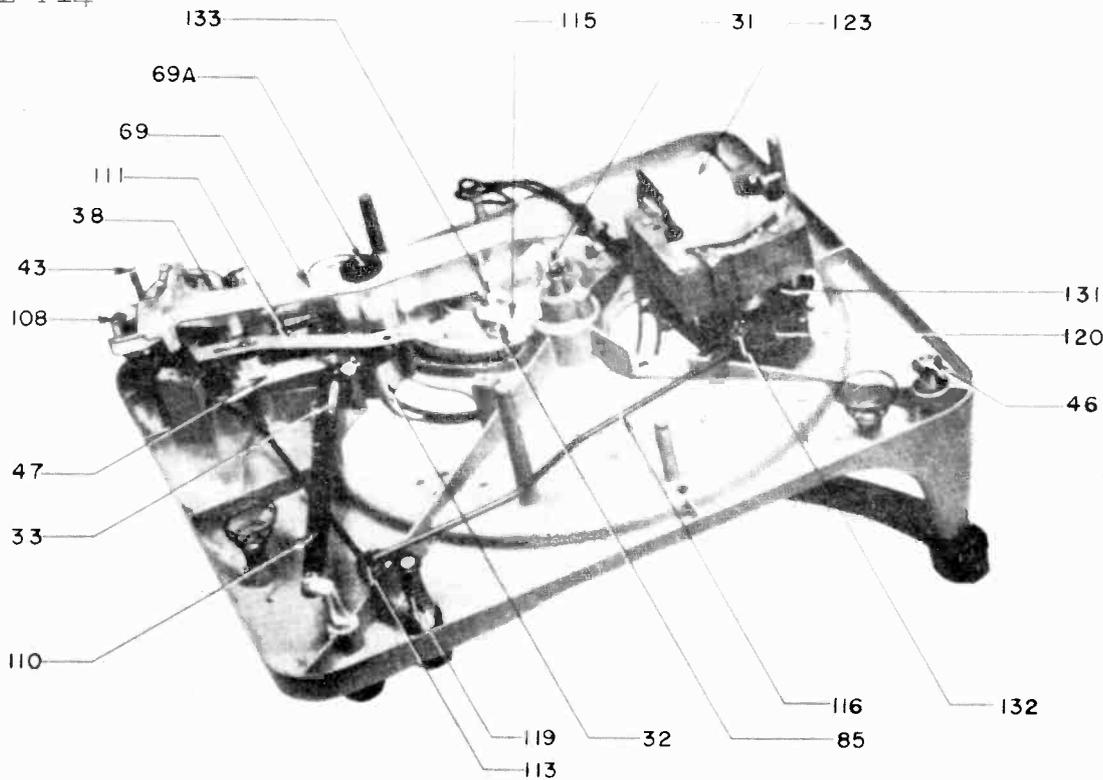
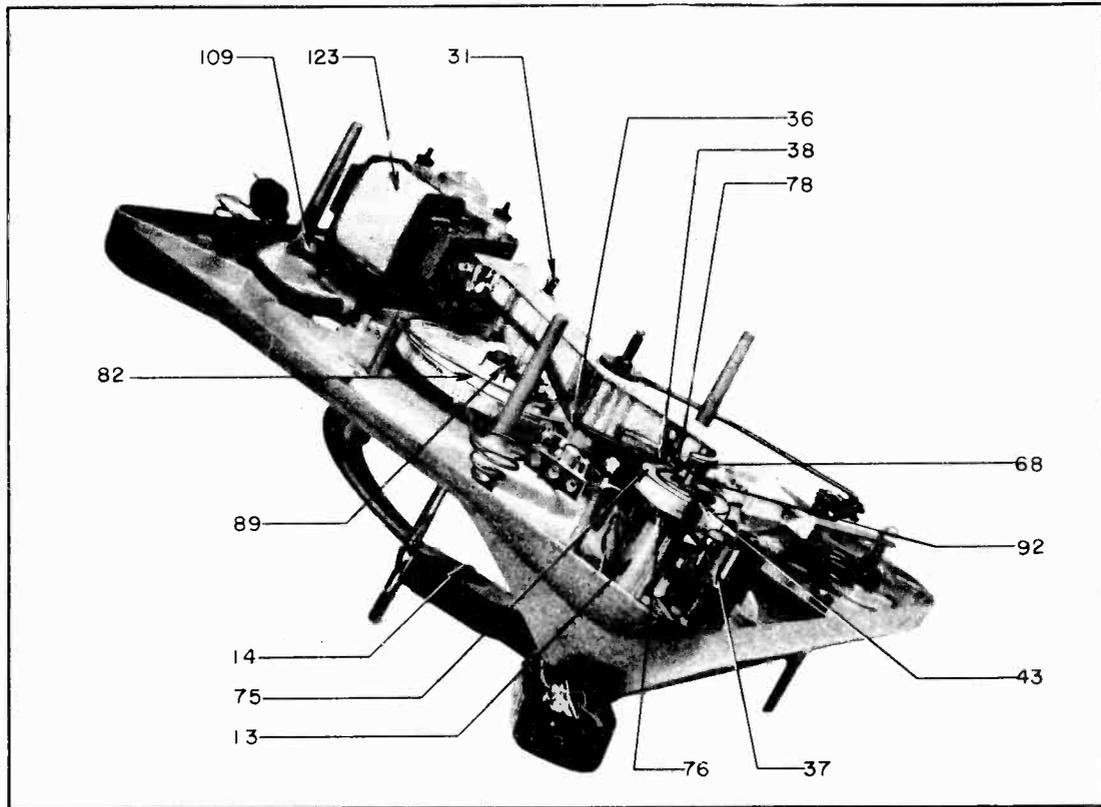
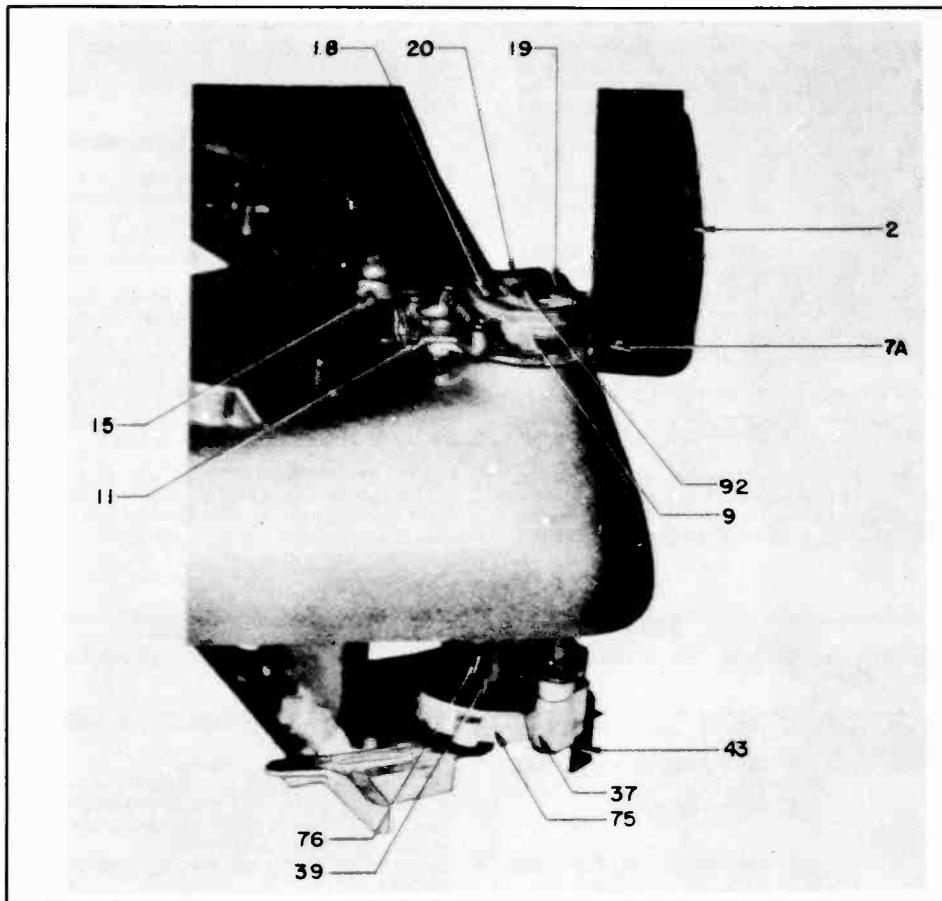

Fig. 2. Bottom View
Fig. 3. Bottom View
Fig. 4. Pickup Arm Mounting and Adjustment
1. Hinge bearing inside hinge assembly (13, Fig. 3).
2. Locator housing (75, Fig. 3) and set-down locator plate (43, Fig. 2).
3. Cam faces on lift arm (69, Fig. 2), lift arm bearing and lift arm cut-off rod bearings.
4. Between lever spring (38, Fig. 3) and cut-off rod.
5. Heart-shaped cam track on cam and cam bearing (133, Fig. 2).
6. Spindle between roller plunger and roller spring housing and between the roller spring housing and the spindle body (31, Fig. 2).
1. Pickup arm locator assembly bearing and ball bearing pickup arm post (75, Fig. 3).
2. Control lever bearing (47, Fig. 2).
As the main cam gear is turned by the turntable gear, the lift arm roller (133, Fig. 2) moves around the heart-shaped cam at the center of the cam gear. The outside end of the lift
arm raises or lowers the pickup arm by one cam action and swings the pickup arm in or out by another cam action. The pickup arm is first lifted by the cam pushing on the pickup arm lift rod (92, Fig. 3), then the pickup arm is swung out away from the records by the end of the lift arm which hits the stud of the ratchet arm (75, Fig. 4) assembly and rotates the pickup arm. After the pickup arm has swung out of the way, the inside end of the lift arm pushes up roller plunger (31, Fig. 3) which actuates the record pusher and causes it to move the bottom record into position to fall to the turntable.
Indexing is accomplished by the locator plate (43, Fig. 2) and the ratchet arm (75, Fig. 3). During the change cycle, the ratchet arm (75, Fig. 3) is pressed up against the locator plate (43, Fig. 3). The notches in these two parts should come together. During the last half of the cycle, the locator spring (38, Fig. 3) rotates the locator (43, Fig. 3) and the ratchet arm against the seven-inch index cam (37, Fig. 3).
During each cycle the adjusting ring (9, Fig. 4), rotates out and allows cam (11) to return to 10-inch index position if it had previously been tripped by a 12-inch record. Automatic shut-off after last record is accomplished by the cut-off rod (36, Fig. 3). When the record support arm falls onto the shelf of the spindle, the record pusher (28, Fig. 1) is stopped by the record support arm (1, Fig. 1). This limits the vertical travel of the Record Pusher Shaft Assembly (31, Fig. 3) so that the inside end of the
cut-off rod (36, Fig. 3) hits the collar on the shaft assembly, causing cut-off rod (36) to rotate so that the outside end of rod (36) hits the control lever (47, Fig. 2) and rotates the lever to the "OFF" position.
PICKUP ARM INDEXING—Screws (18, Fig. 4) and (19, Fig. 4) are used to adjust the point at which the stylus lands on the record. If the stylus lands too far out on the edge of the record, loosen screw (18) slightly and tighten screw (19).
If it is necessary to make adjustment of screw (20, Fig. 4), loosen screw (20) and match locator plate (43, Fig. 2) and ratchet arm (75, Fig. 3) and with locator plate rotated against index stop in the base plate, rotate pickup arm to index approximately for a 10-inch record. Make a fine adjustment of indexing with screws (18, Fig. 4) and (19, Fig. 4), as above. When the correct set-down is obtained for the 10-in. position, the 12- and 7-inch needle set-down will be also correct.
PICKUP ARM HEIGHT—The pickup arm height is adjusted by the screw (92, Fig. 4) located on top of the pickup arm lift rod. Turn the screw out or in until the underneath side of the pickup arm clears the rest by $\frac{1}{8}$ in. or $\frac{3}{16}$ in.